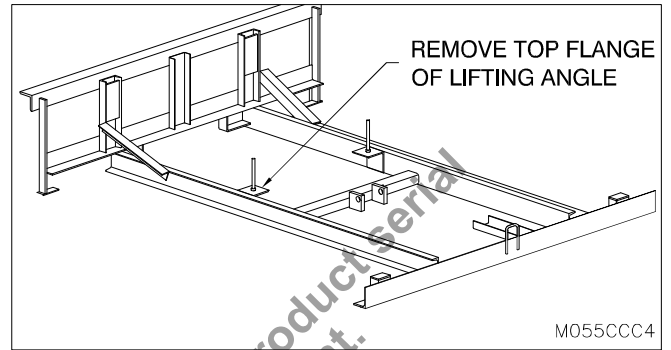

Figure 18: Top Flange Removal Diagram
20. ___ Once the leveler has been fully installed, remove the top flange of the lifting angle to allow clearance for the Hold Down Release Bar. (See "Figure 18: Top Flange Removal Diagram" on page 14)